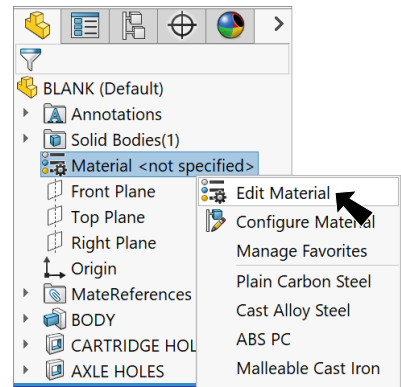

Fig. 28
Step 1. Right click Material  in the Feature Manager and click Edit Material, Fig. 28.